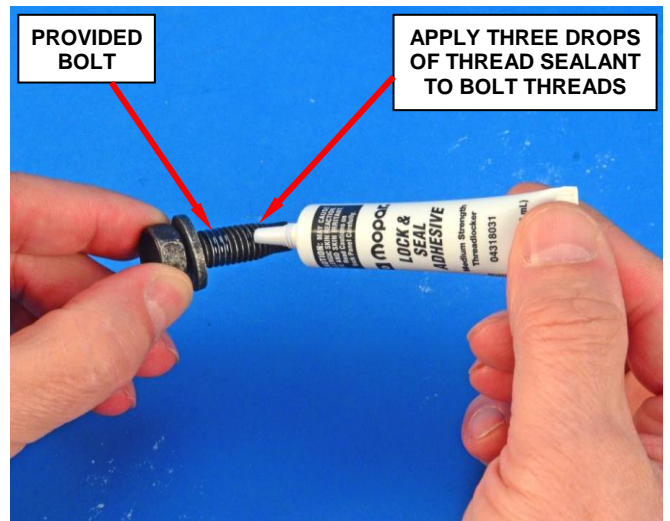

Figure 22 – Apply Thread Sealant
2. Apply three drops of Mopar Lock & Seal Threadlocker, or equivalent, to the threads of the provided bolt (Figure 22).